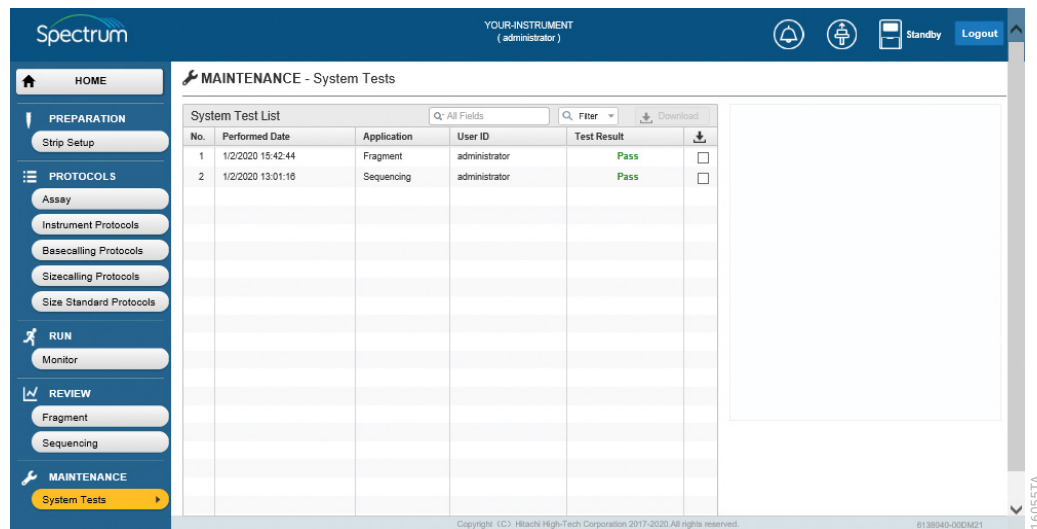

Figure 107. Maintenance System Test file download.
1. Select System Tests under MAINTENANCE from the Main Main of the 'HOME' screen (Figure 12) to reveal the 'MAINTENANCE-System Tests' screen (Figure 107).